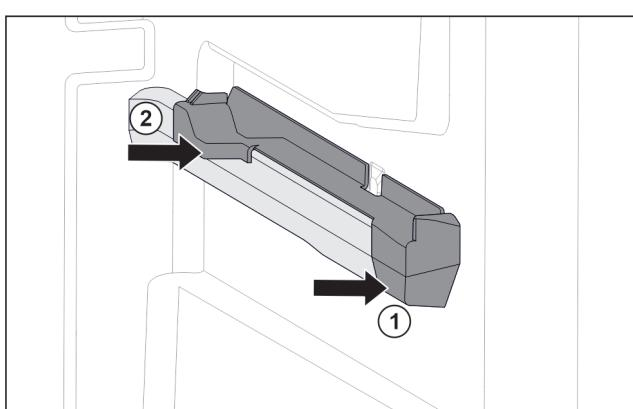

Fig. 85 Attachment on the right moulded rib
- ▶ Position attachment on moulded rib at the front. Fig. 85 (1)
- ▶ Press on attachment at the back. Fig. 85 (2)